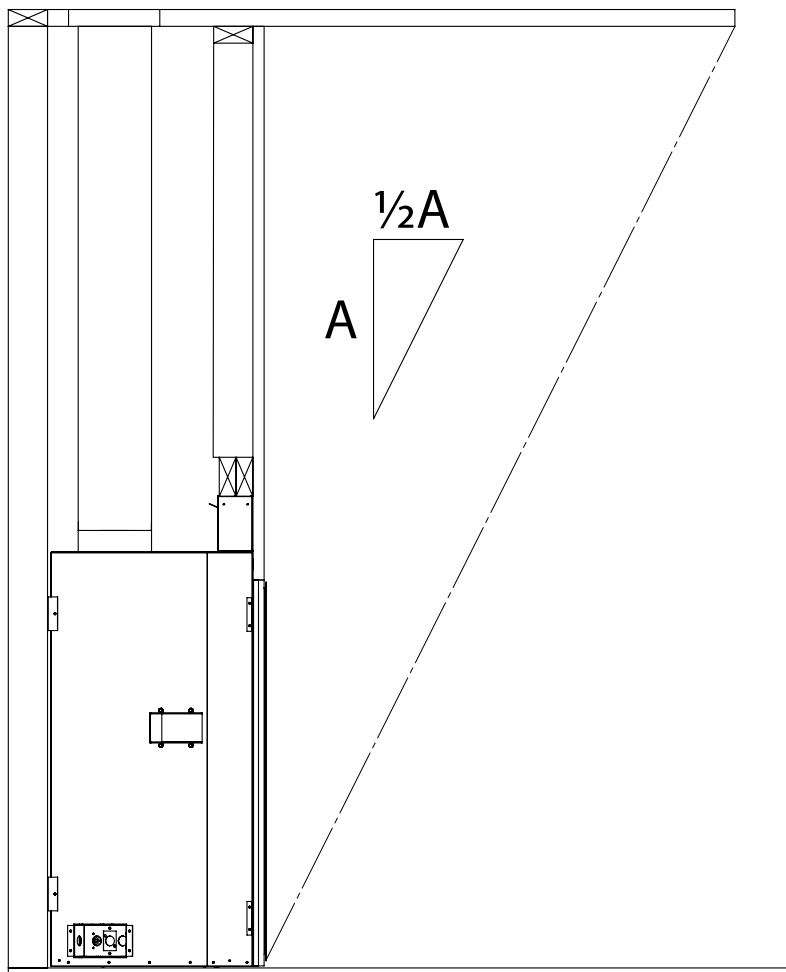

Figure 42. Overhang Depth Requirements
- The fireplace must be protected by an overhang with a depth that is at least equal to half of its height from the base of the fireplace, as shown in Figure 42.